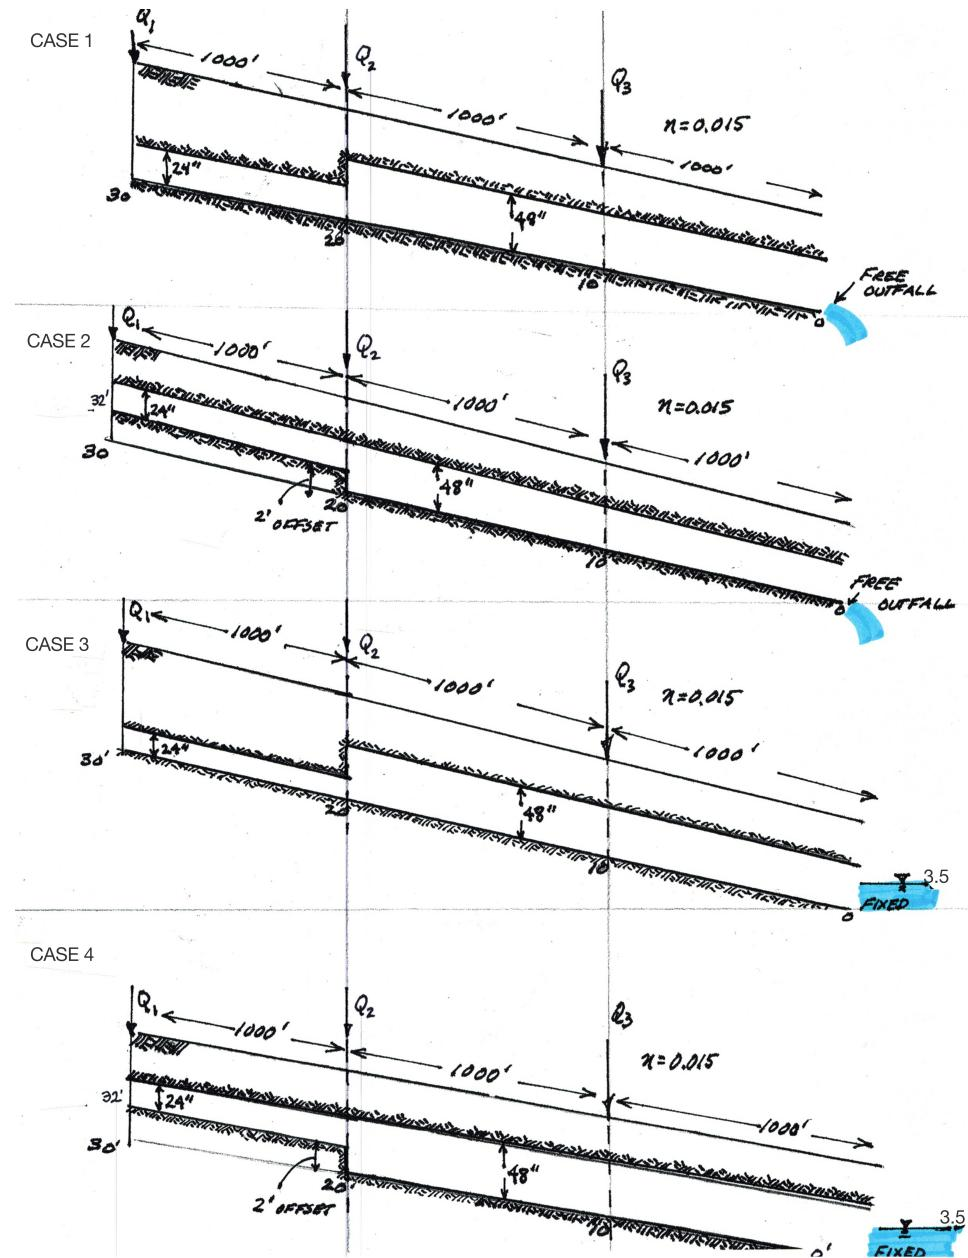

Figure 1: Four (4) cases to model in SWMM
1. Figure 1 is a sketch of four different configurations. All pipes have Manning's n 0.015. The invert elevations, pipe diameters, and pipe lengths are given on the sketch. The input flows are  $Q_1 = 20$  CFS,  $Q_2 = 66$  CFS,  $Q_3 = 110$  CFS, at the indicated nodes. The upper two cases have a FREE outfall downstream boundary condition; the lower two cases have a FIXED pool elevation boundary condition (pool elevation is 3.5 feet).